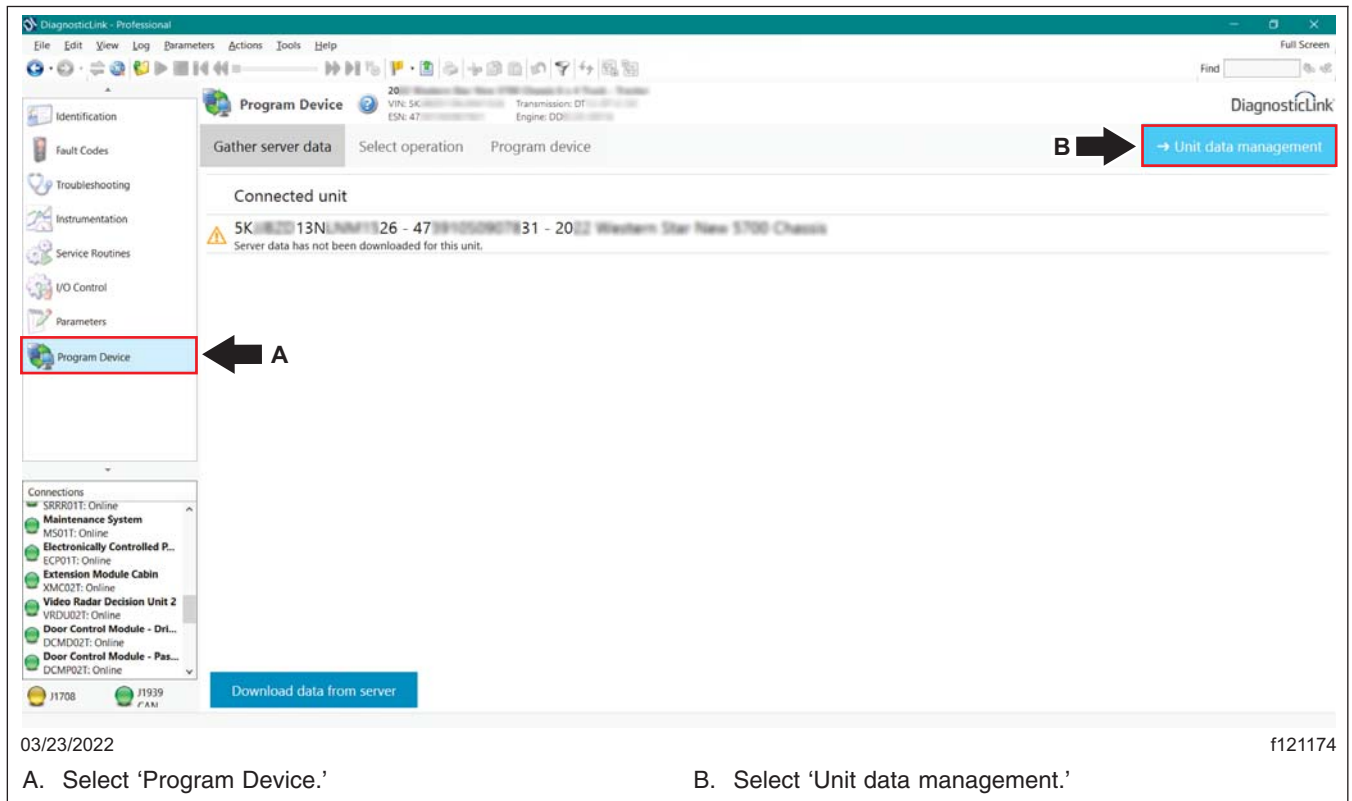

Fig. 6, Selecting Unit Data Management
10. Go to the 'Program Device' tab, and select 'Unit data management' in the upper-right corner. See Fig. 6.